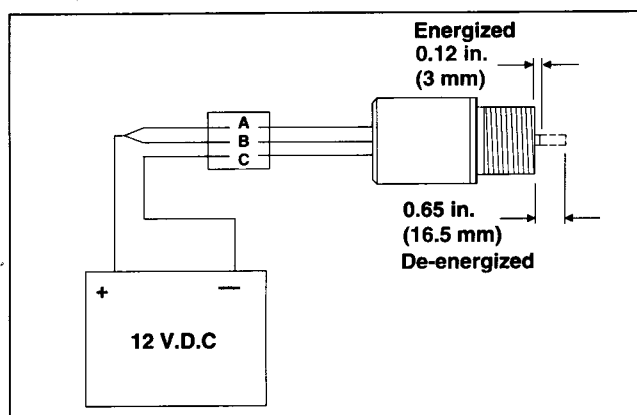

Figure 22
2. Connect a 12 volt battery so the positive (+) battery terminal is connected to terminals A (hold) and B (pull) (Fig. 22). Connect the negative (-) battery terminal to solenoid terminal C (common). The plunger should retract to the dimension shown.